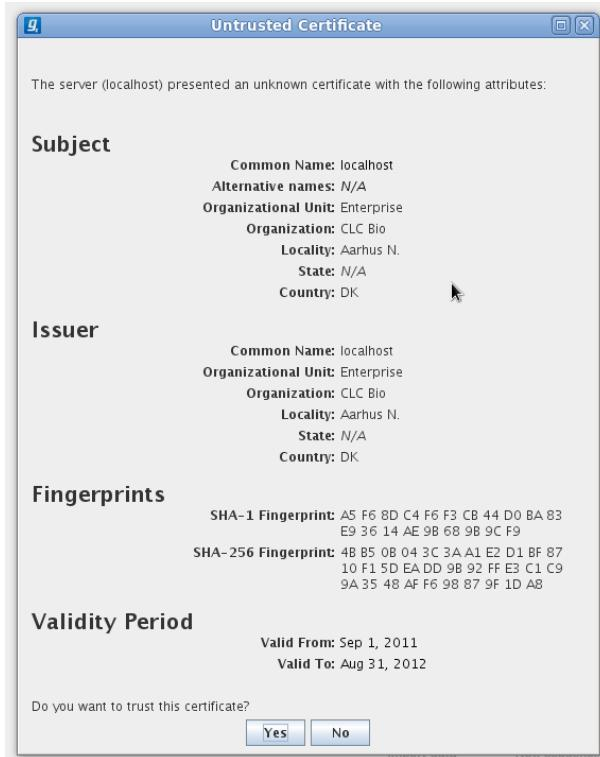

Figure 10.3: A warning is shown when the certificate is not signed by a recognized CA.
If SSL is detected, the server's certificate will be verified and a warning is displayed if the certificate is not signed by a recognized Certificate Authority (CA) as shown in figure 10.3.